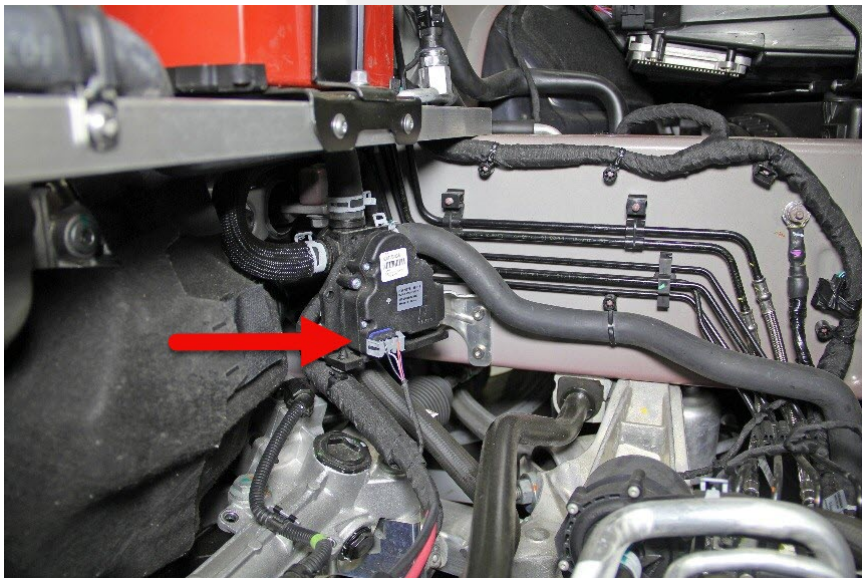

Figure 3
4. Disconnect the electrical connector from the 4-way coolant valve (Figure 3).